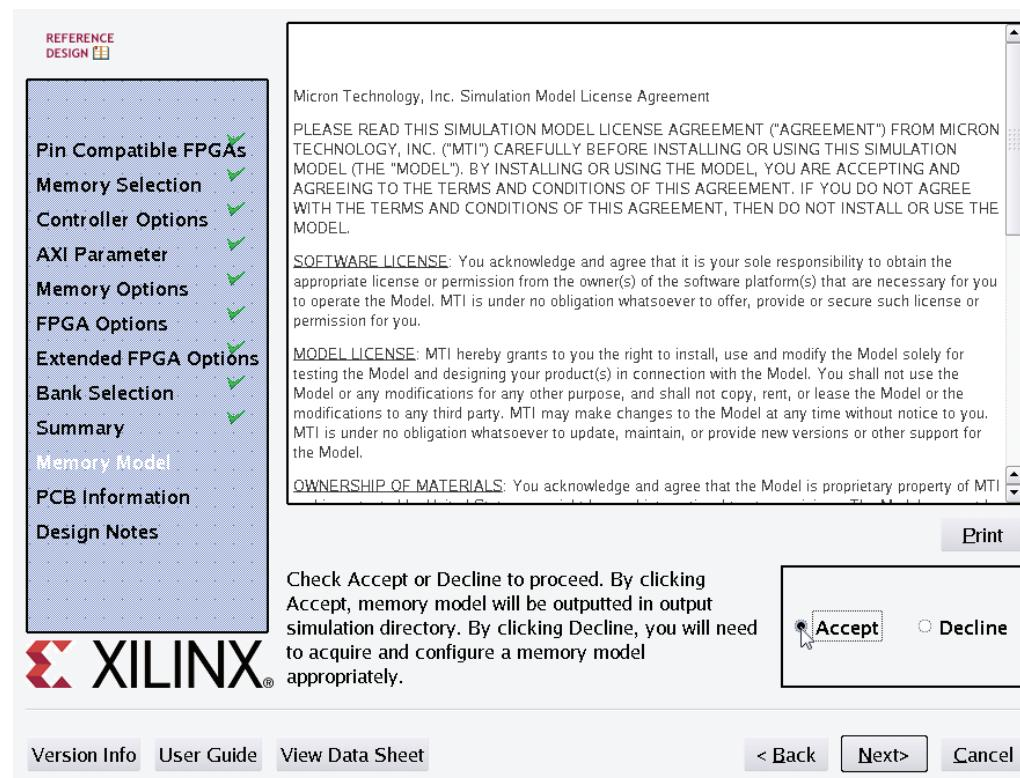

Figure 40: MIG Micron Model License Agreement
27. Review the license agreement, then click **Accept** and **Next** to have the memory simulation model delivered from the CORE Generator tool to be used to create a simulation testbench (Figure 40).